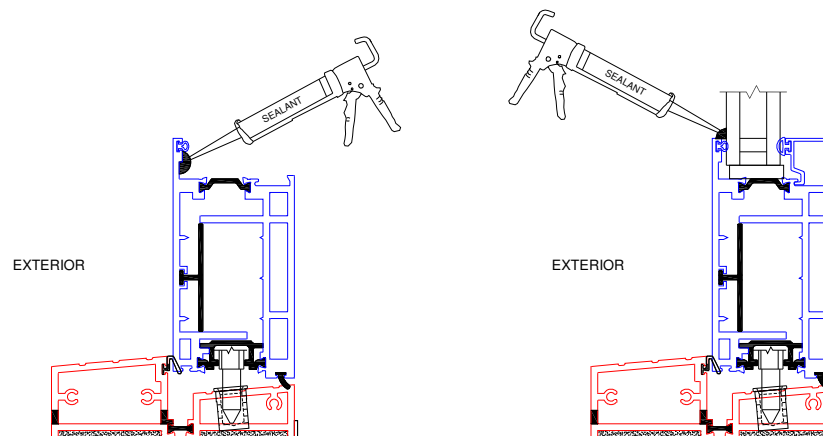

Figure 13:
1. Before glazing, apply a continuous bead of sealant to the fixed leg of the frame (Figure 13).